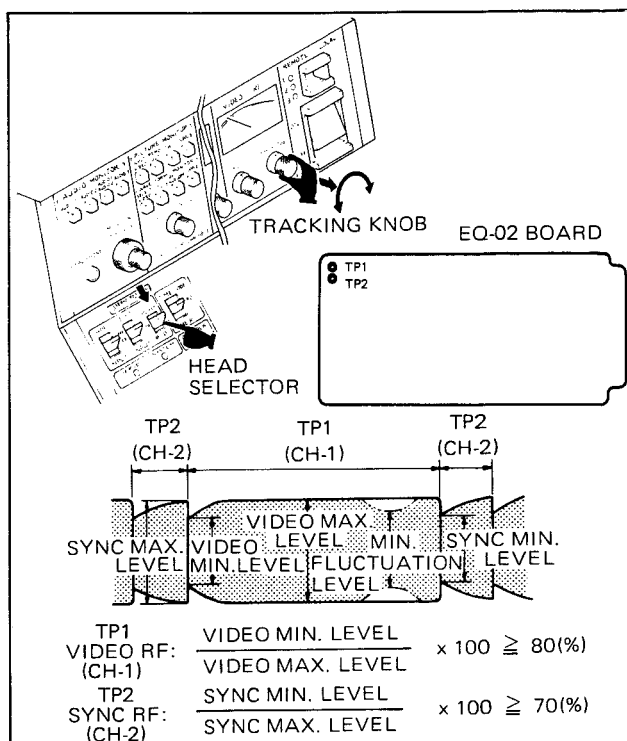

Fig. 10-11-1. Alignment Tape Playback Check
7. Check that the **VIDEO** and **SYNC RF** waveform show the specified value in Fig. 10-11-1.